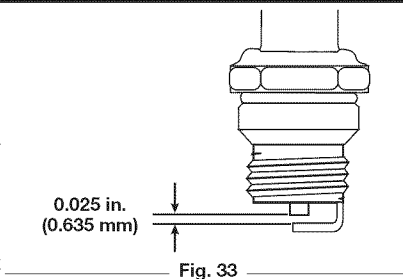

Fig. 33
- Replace cracked, fouled or dirty spark plug. Set the air gap at **0.025 in. (0.635 mm)** using a feeler gauge (Fig. 33).